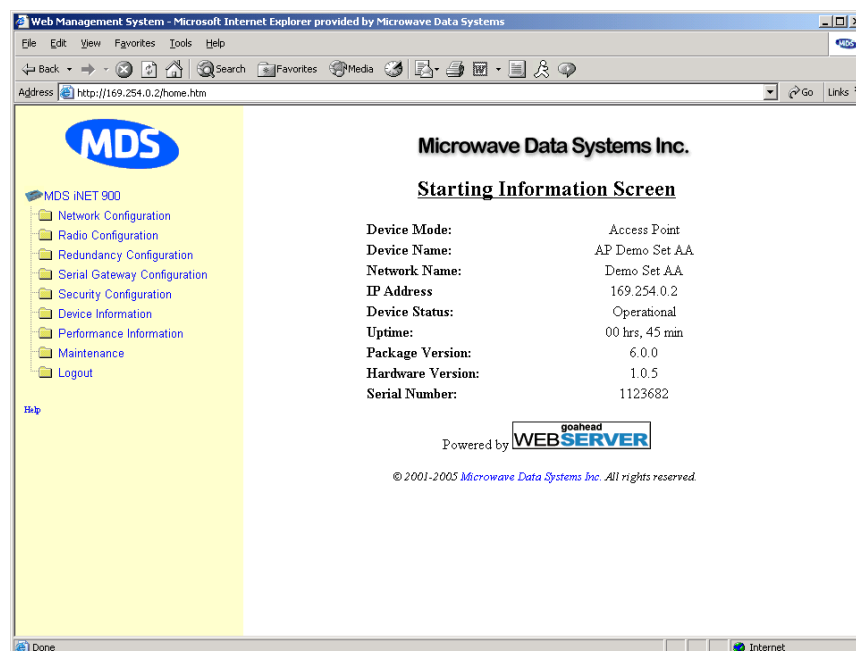

Figure 2-8. Starting Information Screen—Web Browser Example
5. Click **OK**. The unit responds with a startup menu screen similar to that shown in Figure 2-8. From here, you can review basic information about the unit or click on one of the menu items at the left side of the screen.